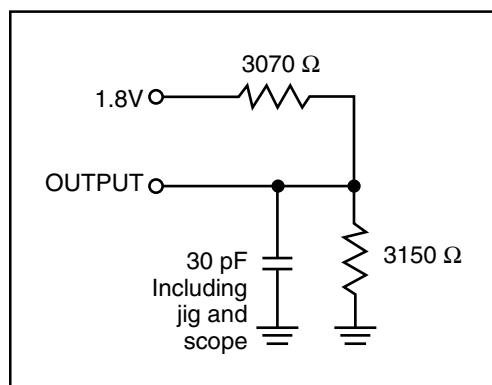

Figure 1
| Output Load                                 | See Figures 1 and 2     |
1. Test conditions assume signal transition times of 5 ns or less, timing reference levels of 0.9V, input pulse levels of 0.4 to 1.4V and output loading specified in Figure 1.
- Test conditions assume signal transition times of 5 ns or less, timing reference levels of 0.9V, input pulse levels of 0.4V to 1.4V and output loading specified in Figure 1.